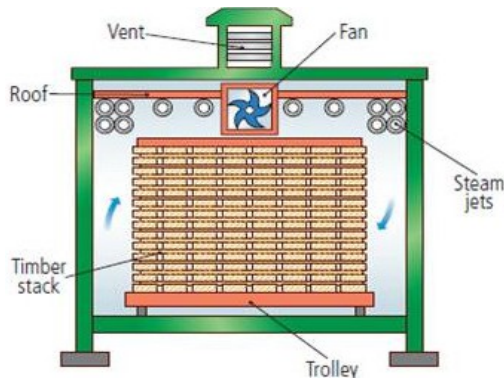

Fig. 124: Kiln seasoning
2. **Kiln Seasoning (Artificial):** Timber is kiln-dried by placing it in the oven where the temperature and humidity are accurately controlled. The boards are stacked in about the same way as for air-drying (Figure 123). Steam keeps the humidity and temperature low when the green timber is first placed in the kiln. Generally, the temperature is raised, and the humidity is reduced. Fans are used to keep the air in constant circulation over the surfaces of the wood. Each species is also timed to enable accurate standard seasoning. Kiln seasoning can be regulated to give as low a percentage as desired (figure 124).